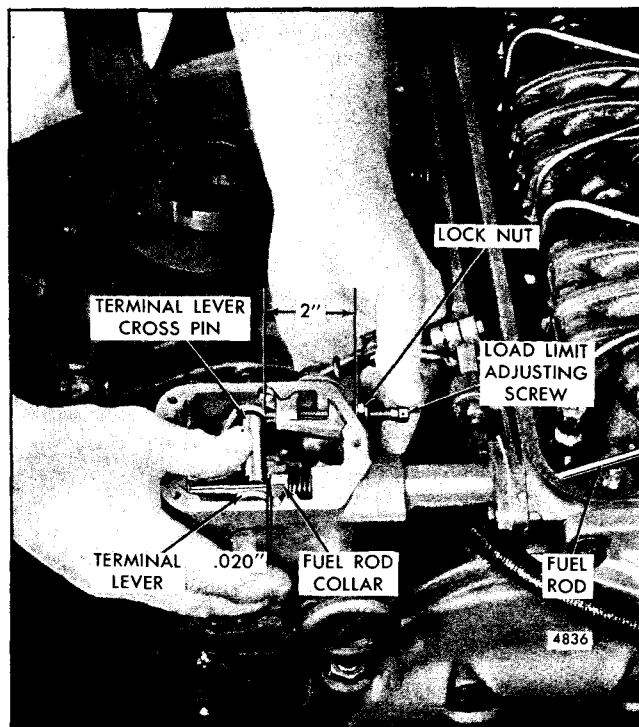

Fig. 3 - Adjusting Load Limit
1. Loosen the lock nut (Fig. 3) and adjust the load limit screw to obtain a distance of approximately 2 "